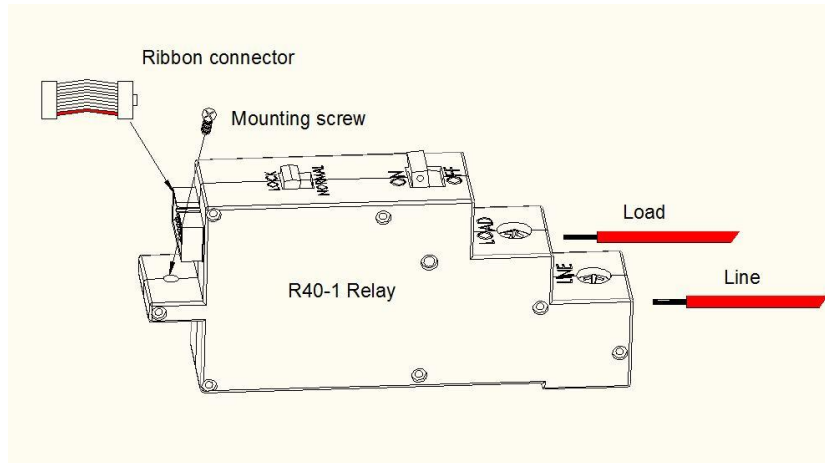

Figure 7 R40-1 Relay Termination
- 3) Terminate the line and load wires onto the new R40 relays, connected to the same relay number used in the old system. The line wire terminates to the connection towards the back of the insert, and the load wire should be terminated to the connection towards the top of the relay as shown in Figure 7. Torque all relay termination screws to 20 lbs./in.
- 8) A new high voltage wire will then need to be installed and terminated from the load output of the controllable breaker to the line connection of a new relay. Terminate as shown in Figure 7. Note: Typically, the odd relays are on the left, and even relays on the right, numbered from the top down. This must be done for every single controllable breaker that is being converted to relay control.
- 9) A new high voltage wire needs to be installed from the load output of the relay and terminated as shown in Figure 7 to the original load wire. This will terminate to the wire that was disconnected from the controllable breaker in step 7.